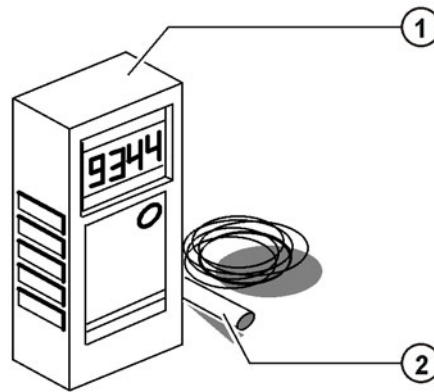

Fig. 10-3: Belt tension measuring device
2. Switch on the belt tension measuring device (>>> Fig. 10-3).